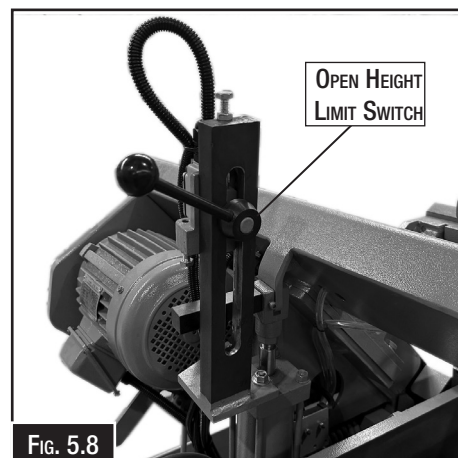

Fig. 5.8
2. Release the open height limit switch clamp and move it until it touches the limit switch. (Fig. 5.8)